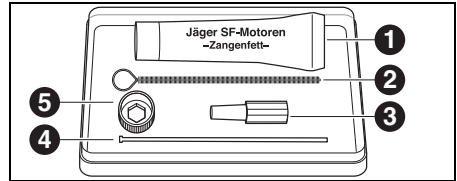

Fig. 26 Service set for Jäger spindle
- ▷ Apply a light coat of the collet grease ([1] in Fig. 26 on page 72) from the service set to the outer cone of the collet.